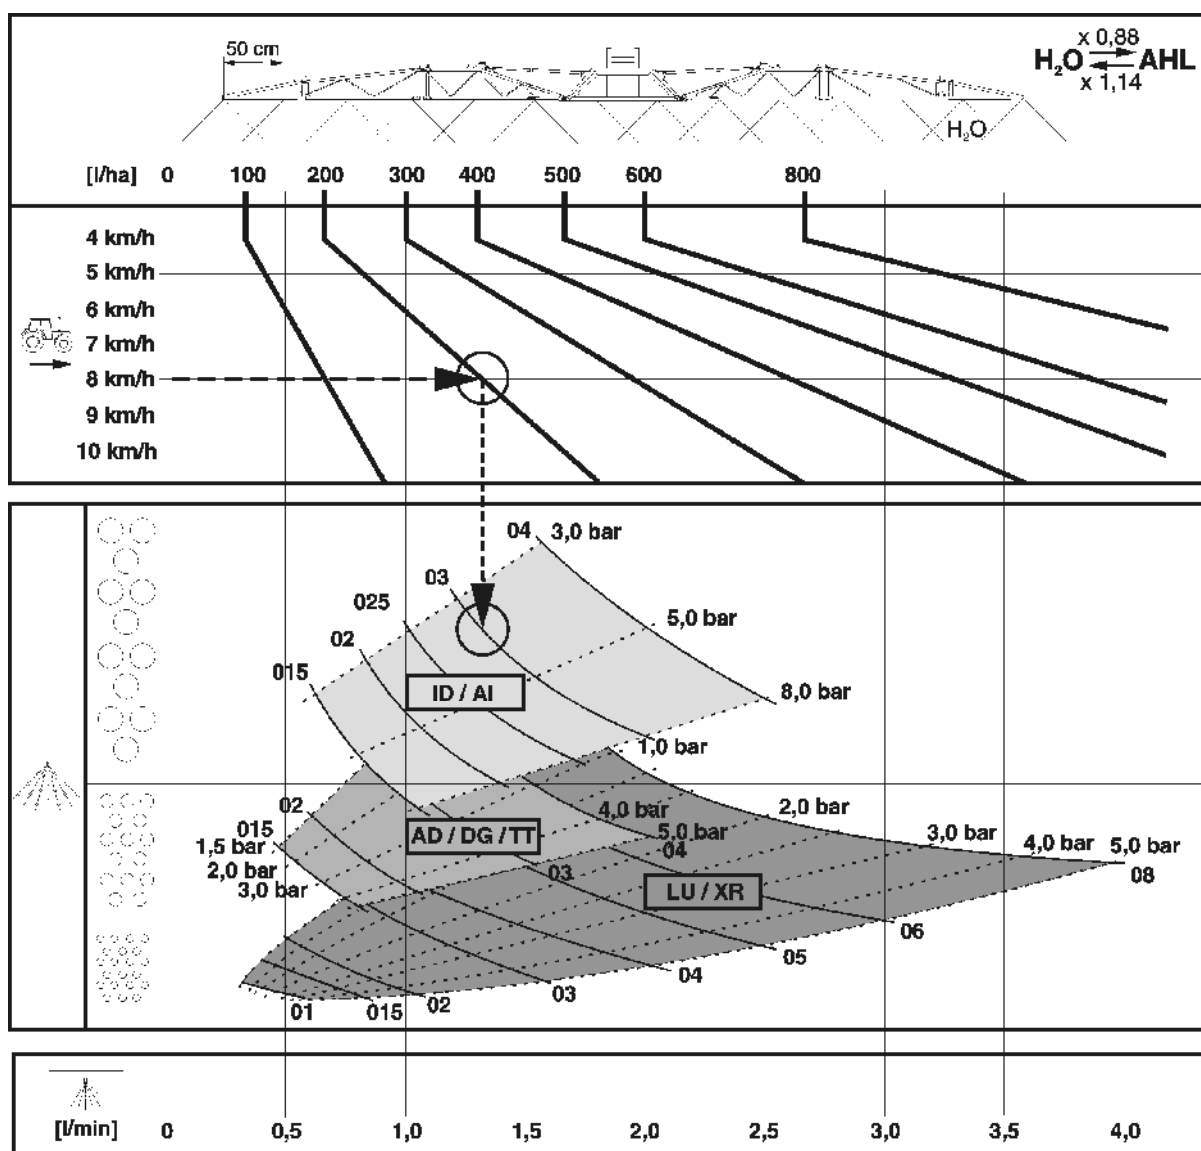

Fig. 182
- Fig. 182 helps with the selection of the right nozzle type. The nozzle type is determined by